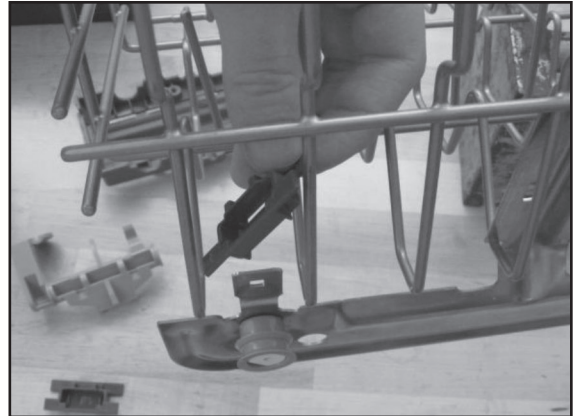

FIGURE 3
5. To begin assembling the positioner clips, they need to be rotated slightly to fit between the rack tines. See *Figure 3*.